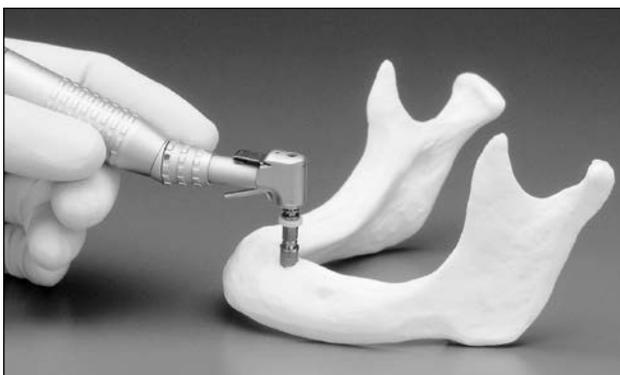

Figure 16.
C. The implant may be driven either manually or with the use of a Latch-Lock Driver. The Manual Mount Driver is inserted into the bottom broach of the Implant/ Tap Driver Wrench so that the driver rotates freely in a clockwise direction. The Latch-Lock Mount Driver engages directly into the handpiece. The Mount Driver's male hexagon is inserted into the female hexagon of the implant driver mount. The retaining clip on the Mount Driver provides mechanical retention to the implant driver mount. To remove the implant from the vial, engage the Mount Driver to the driver mount and lift out (**Figs. 14 and 15**). **Note:** The use of mount drivers without retaining clips is not recommended for use with this delivery system. Screw the implant into the prepared site using the handpiece or the Manual Driver Wrench (**Fig. 16**). The implant must be driven into the site at less than 50 rpm. This requires a contra-angle capable of low speed, high torque operation. After the implant is seated, disengage the Mount Driver from the implant driver mount by pulling up in an axial direction.